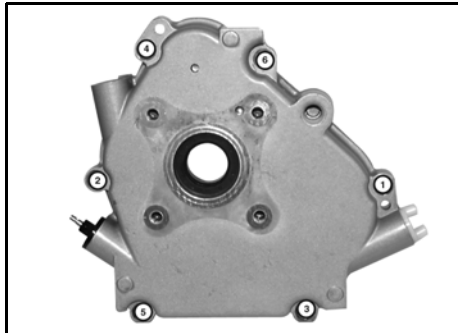

Figure 24
- Figure 24 - Horizontal Shaft Models 200000 and 210000.